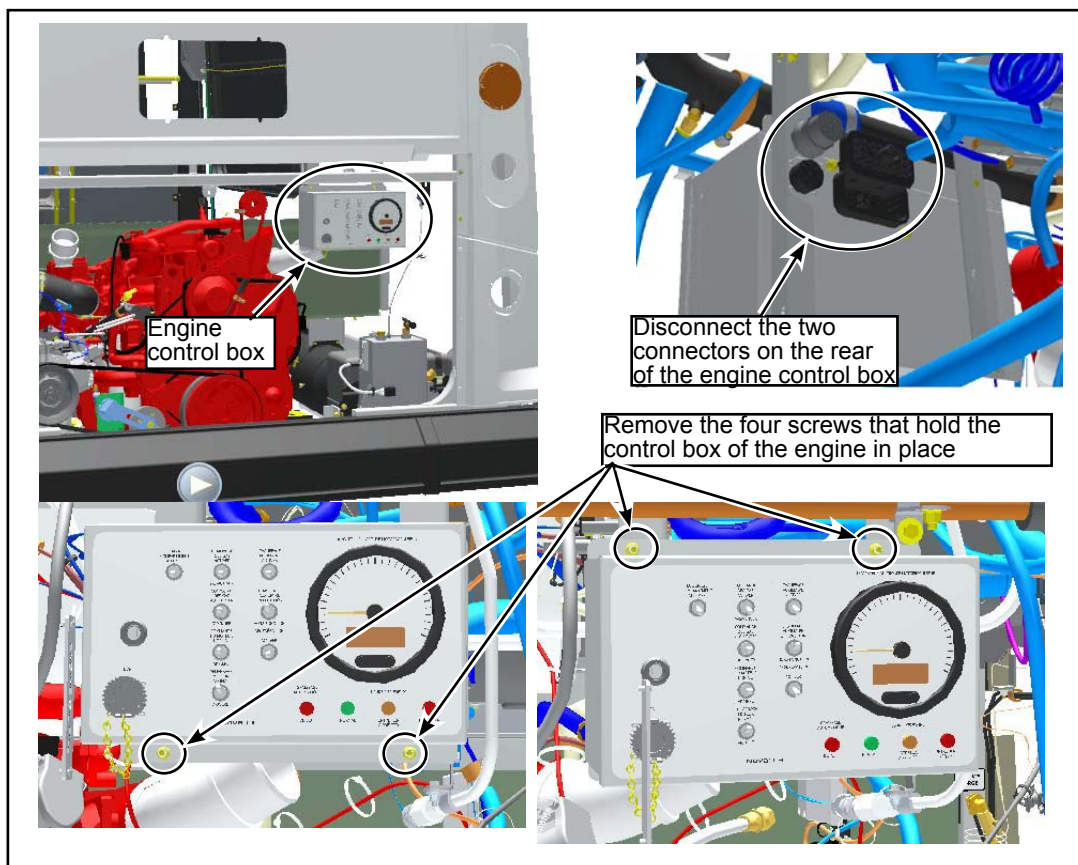

Figure 3 - Remove Engine Control Box
- 1.4. Open the rear engine door to remove the engine control box. Disconnect both connectors on the rear of the engine control box and remove the four screws that hold the engine control box in place (see Figure 3).